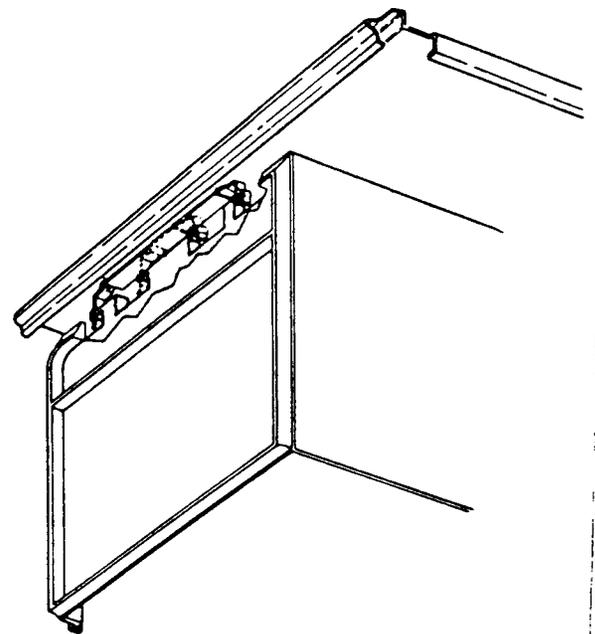

Figure 7 Ice maker enclosure hooked to shelf clip
- Place the shelf in position in the freezer. Move the ice maker enclosure into position and attach it to the spring clip as shown on figure 7.